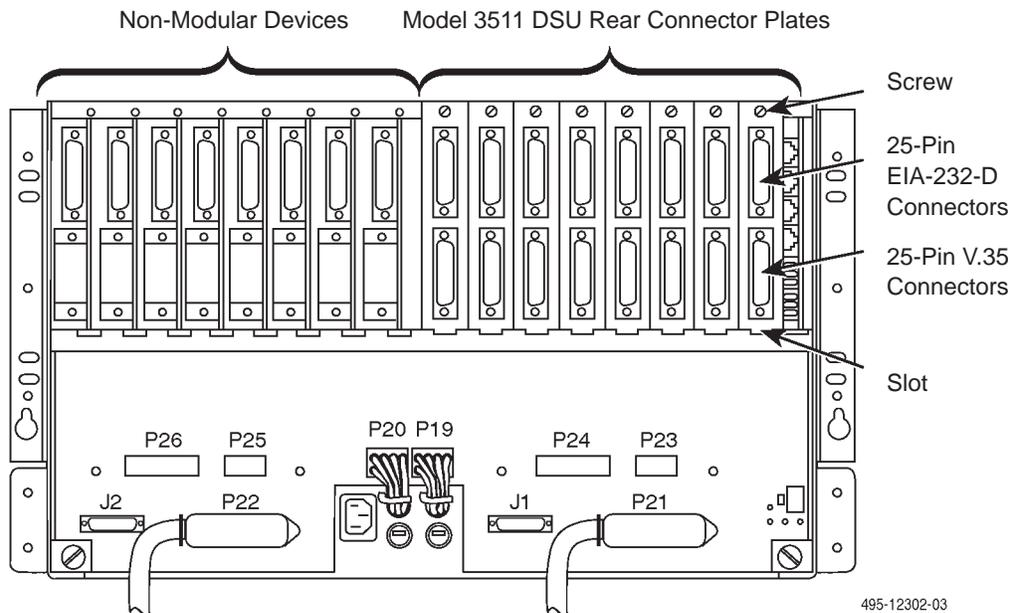

Figure 2. Rear View of the COMSPHERE 3000 Series Carrier
1. At the rear of the carrier, set the tab on the rear connector plate into one of the slots on the carrier's backplane (Figure 2). Make sure the rear connector plate uses the same slot position intended for the DSU.
7. At the rear of the carrier, connect the DTE to the rear connector plate (see Figure 2):